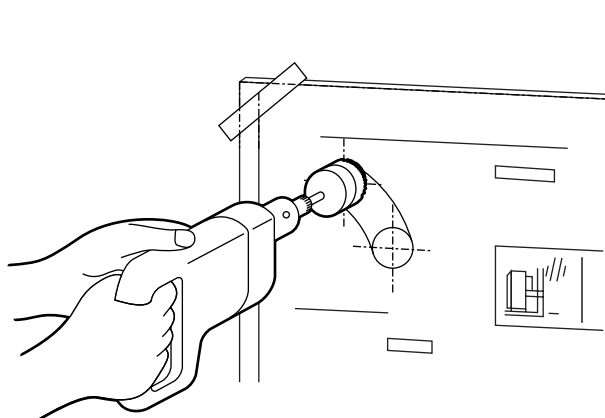
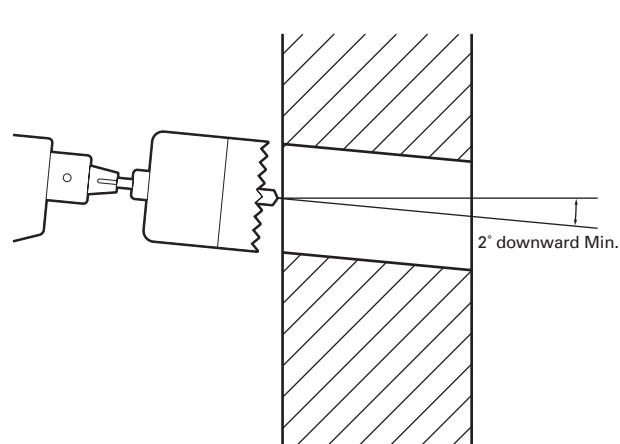

Fig. 5
Fig. 6
6. Cut the hole for the flue pipe from inside the room. Use a 2-3/4 to 3" diameter hole saw attached to an electric drill (See Fig. 5). The opening on the inside wall should be slightly higher than the outside opening (approximately 1/4") so that the flue pipe will slope slightly downward (approximately 2 degrees) after it is installed (See Fig. 6). This will enable the draining of condensed moisture from the flue pipe to the outside and prevent rain or snow entering from outside after installation.